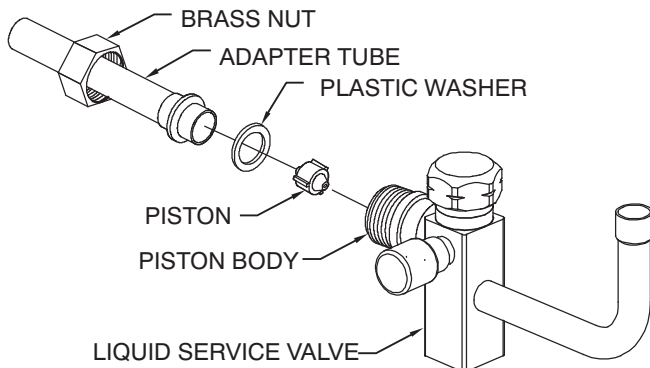

Fig. 3 - Liquid Service Valve
- Remove Teflon® seal from bag and install on open end of liquid service valve. (See Fig. 3.)